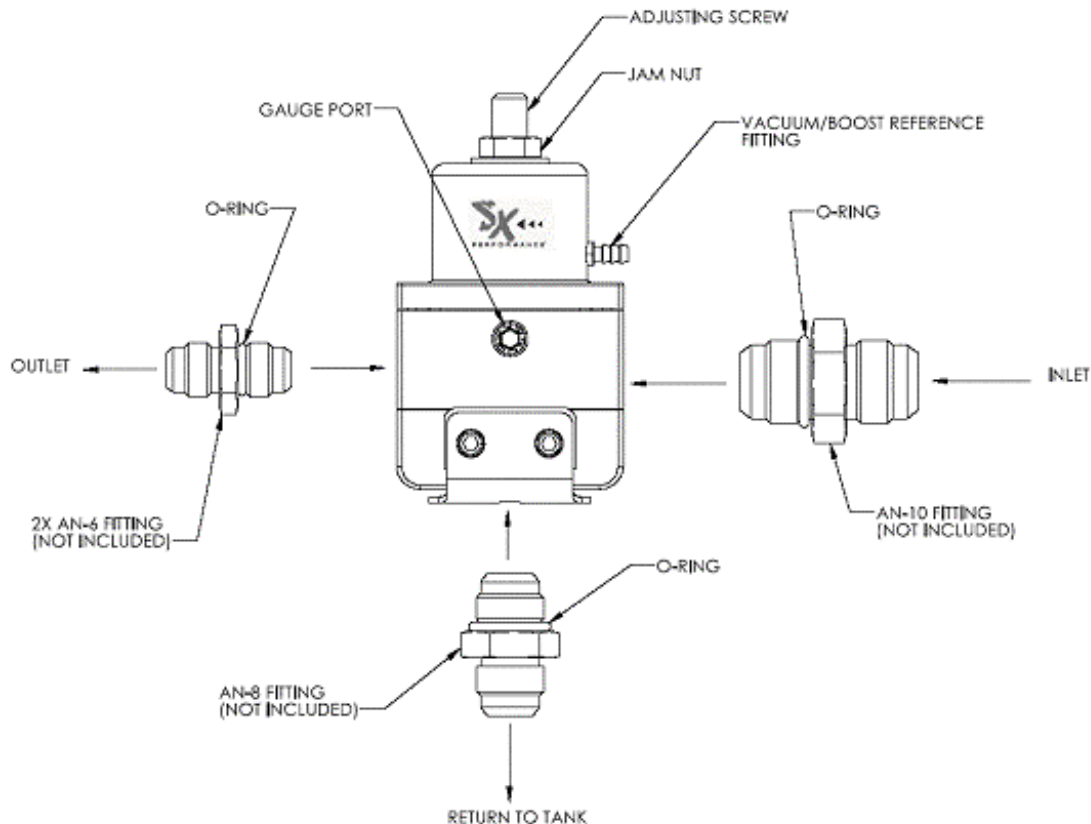

Figure 1 – SX Performance™ Model 15410 Fuel Pressure Regulator
4. Boost Reference Port (Figure 1) is to be used for "blow through" carbureted systems. Blow through systems use a super charger or turbo to pressurize the carburetor(s). For this application, connect the Boost Reference Port fitting to the "Boost Source". This source must be at the same pressure as the float bowl(s) vents. The fuel gage pressure will then increase with boost at a 1:1 ratio. If the fuel system is not a blow through system, allow the port to vent to the atmosphere. This port is **not** to be plumbed into an intake manifold vacuum source.
5. With a relief style regulator, (one with a return line back to the fuel tank) the inlet and outlet ports are at the same pressure. The regulator returns unused fuel through the return port to regulate the fuel pressure to all outlet ports. Figure 1 shows the inlet and outlet ports for the regulator. The bottom port (labeled return in figure 1.) must be used and is not interchangeable with the inlet/outlet ports. The regulator must be plumbed from this port to the fuel tank. The return line must be at least 1/2" line size (-8) or larger, and plumbed using an AN-8 fitting, or other reducer fitting, from the bottom port of the regulator to the fuel tank or cell. The return line at the tank should be plumbed so that the end of the line is near the bottom of the tank and below the fuel level line. Plumbing in this manner will reduce aeration
6. Install the o-rings and fittings as shown in Figure 1. Do not use thread sealer on the AN fitting threads. An AN-6 plug can be used to plug any unused outlet ports
8. Coat the threads of the boost reference/vacuum fitting with thread sealer (not supplied) and install it into regulator port as shown in Fig. 1. Check for leaks around threads after curing. Connect the vacuum line to the boost reference/vacuum fitting on the regulator if so equipped. If no boost/vacuum reference is being utilized, leave the fitting or hole in the regulator cover open to atmosphere
9. Connect and tighten fittings to the inlet and outlet fuel lines, see Figure 1.